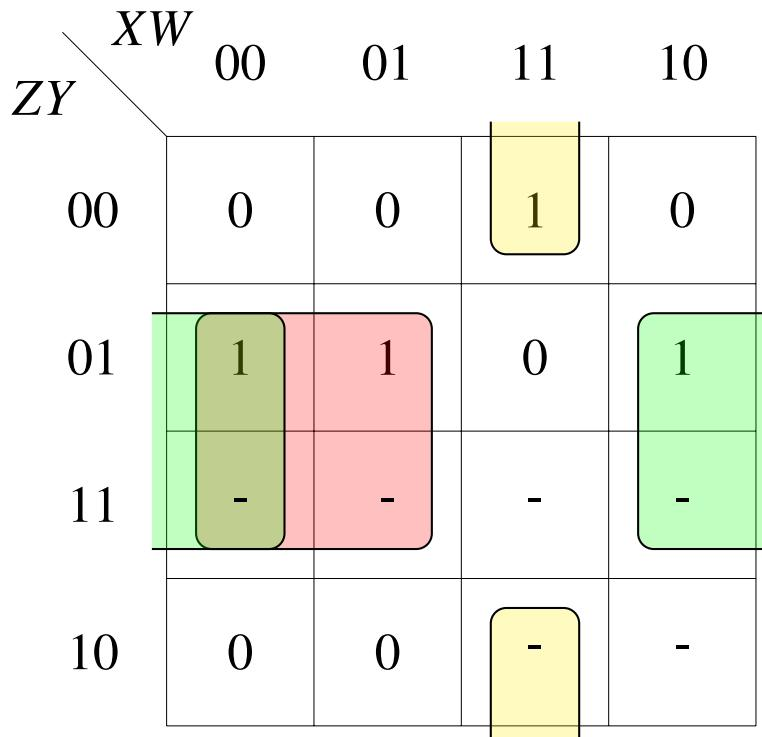

Fig. 4.7: K-map for C with don't cares
4. The revised K-map for C is available in Fig 4.7 Show that